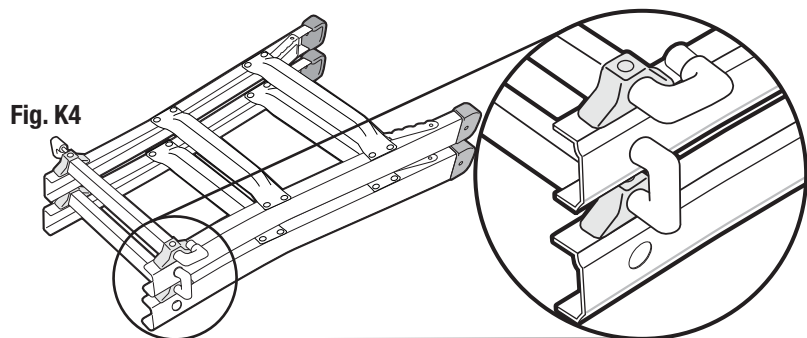

Fig. K4
4. Place second Outer Ladder Unit (with rungs facing up) on top of first Outer Ladder Unit. Pivot Rail Lock Pins on bottom Outer Ladder Unit into ports on top Outer Ladder Unit. (Fig. K4)